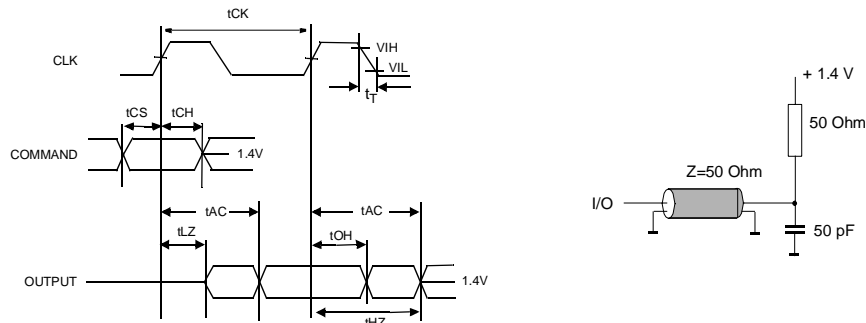

Figure 1.
- AC timing tests have V_{IL} = 0.8V and V_{IH} = 2.0V with the timing referenced to the 1.4 V crossover point. The transition time is measured between V_{IH} and V_{IL}. All AC measurements assume t_T = 1ns with the AC output load circuit shown in Figure 1.